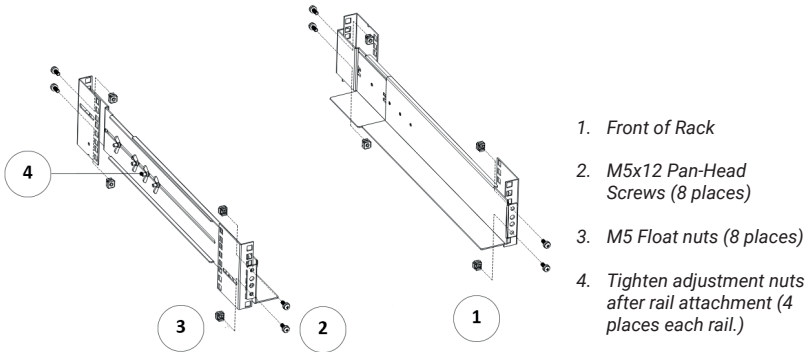

FIG 4: Fixing the Rails
2. Select the proper size in the rack for positioning the UPS (see FIG. 4). The rail occupies four positions on the front and rear of the rack.